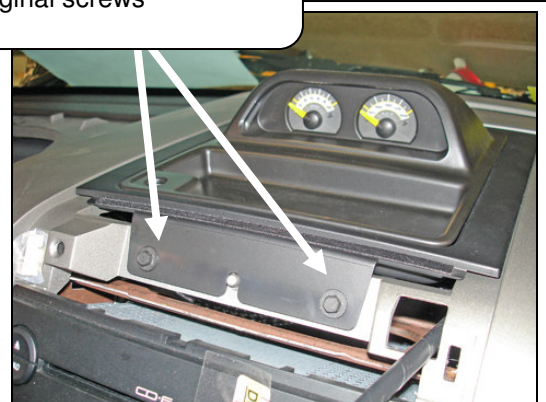

Figure 14
14. Install the gauge pod to the IP with two 7mm original screws (see Figure 14).